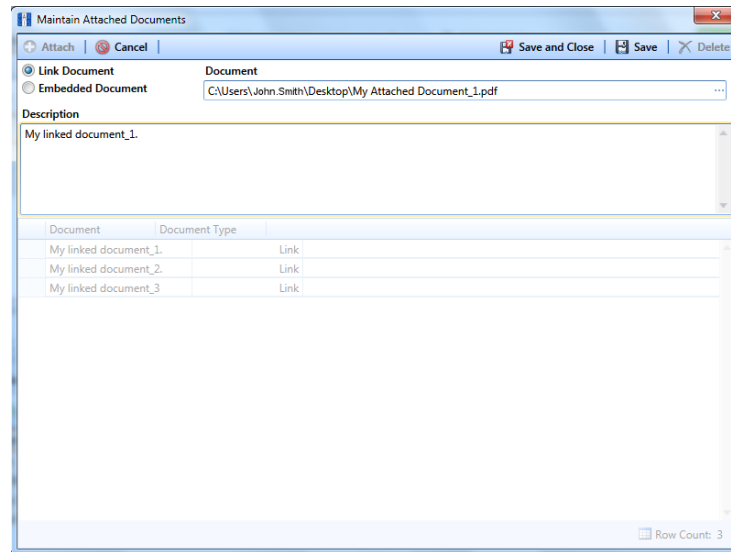

Figure 6-84. Maintain Attached Documents
- 7 If you selected *Link Document* in step 6 and want to link to a file on a local computer or company network, follow these steps (Figure 6-84):